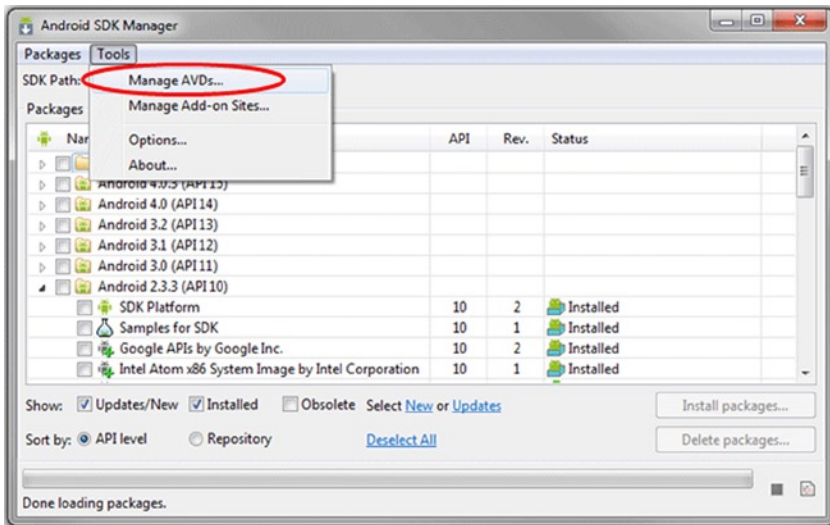

Figure 8-6. Adding a New Android Virtual Device
7. The Android Virtual Device Manager window should appear. Click New (see Figure 8-6).